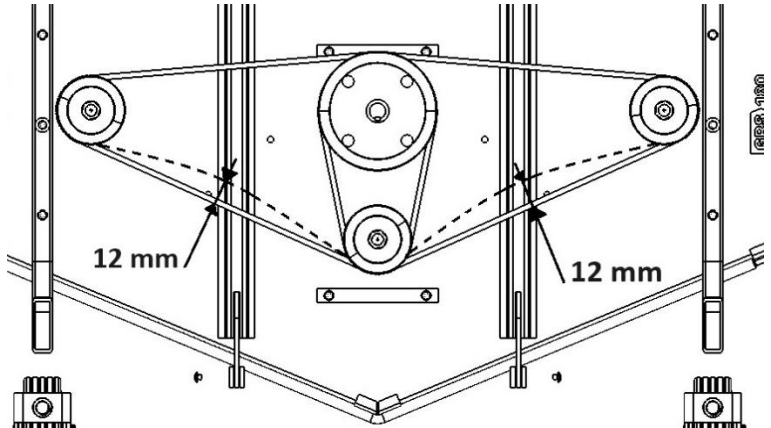

Fig. 5. Belts tension
- tighten the tension adjustment bolt (6 in Fig. 4) until the tension of the belts is correct (when you press the V-belt with your finger halfway between the pulleys, the belt deflects by 12mm) (Fig. 5);